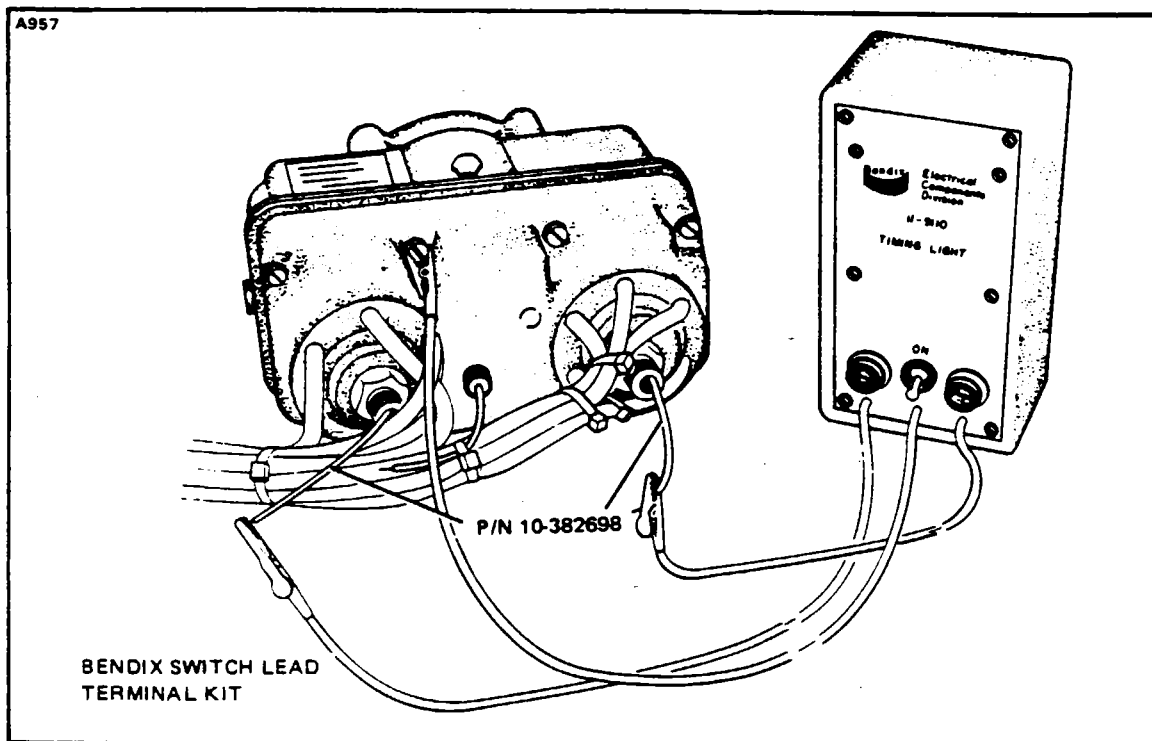

Figure 8-12. Timing Light Connected to Magneto
c. The D-2000 series magneto may be mounted to the engine without removing the cover from the magneto. The cover also has switch terminal outlets for the right and left sides of the magneto, located in the center of the harness lead outlet section of the cover. (Refer to Figure 8-12.)
It is recommended that short adapter leads be fabricated to facilitate connecting the timing light unit to the switch outlet terminals of the cover. (Refer to Figure 8-12.)